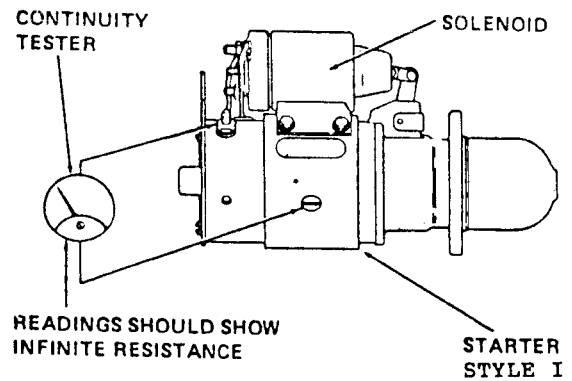

Figure 4-19. Testing Engine Starter
a. Test. On equipment (see figure 4-19). On ASK equipped generators, remove batteries access door.
(1) Make sure batteries are fully charged and that all battery and starter cables are serviceable and properly installed.
(2) Connect voltmeter as shown in figure 4-19, Test a. If voltage is indicated, solenoid maybe defective. Proceed to step (4).
(3) Connect voltmeter as shown in figure 4-19, Test b. If battery voltage (24 volts) is not indicated, the starter (B1) may be defective. Proceed to step (4).
(4) Momentarily connect a jumper as shown in figure 4-19, Test b. Voltmeter reading should drop to zero and starter should crank engine. If voltmeter does not drop to zero, solenoid is defective. If voltmeter reading does drop to zero but starter fails to crank engine, starter is defective.
(b) Connect tester for continuity as shown in figure 4-19, Test d. Continuity indicates that the field coil is shorted to the field frame.